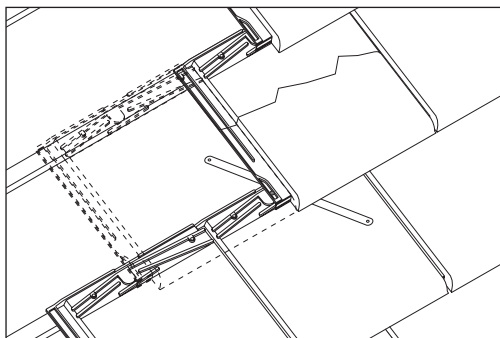

Fig 25 – Cut fixing nail
- At bottom left hand corner of damaged slate, immediately adjacent to neighbouring slate, insert a hacksaw blade and cut through shank of fixing nail (Fig 25).